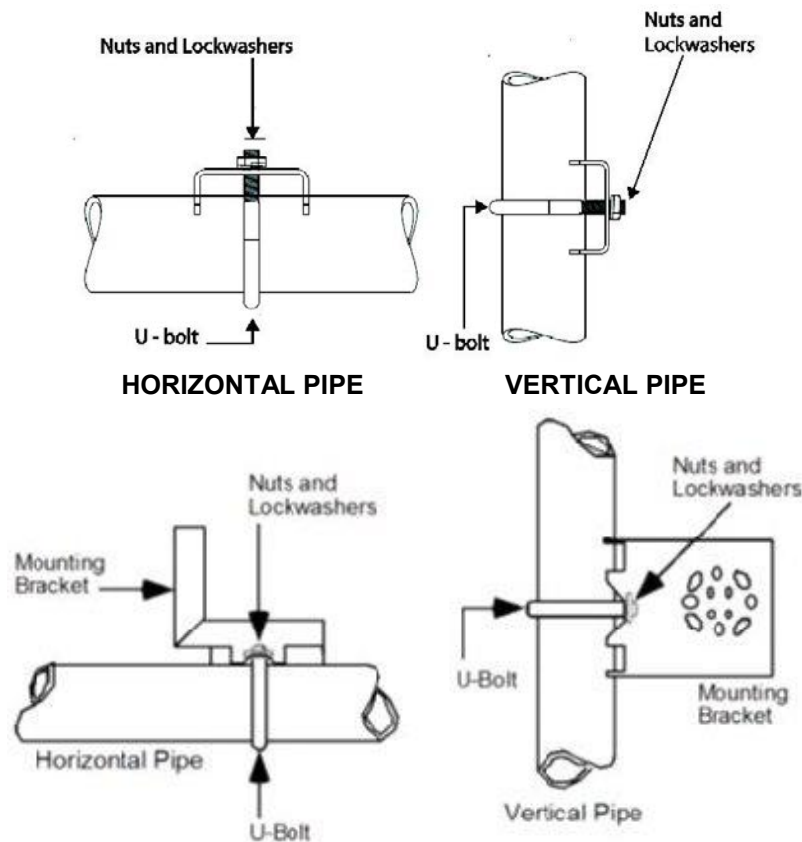

Figure 8 – Pipe Mounting Bracket Secured to a Horizontal or Vertical Pipe
1. Align the two mounting holes in the transmitter with the two slots in the mounting bracket and assemble the (2) M8 hex cap screws, (2) lockwashers and (2) flat washers provided. Rotate transmitter assembly to the desired position and torque the M8 hex cap screws to 27,0 Nm/20,0 Lb-ft maximum.
2. Pipe Mount Option: Refer to Figure 8. Position the bracket on a 2-inch (50.8 mm) horizontal or vertical pipe, and install a “U” bolt around the pipe and through the holes in the bracket. Secure the bracket with the nuts, flat washers and lock washers provided.